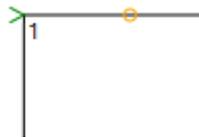

Fig. 5.6.4b Reference Point Location
- ① Select the reference point position, as shown in Fig. 5.6.4b below.